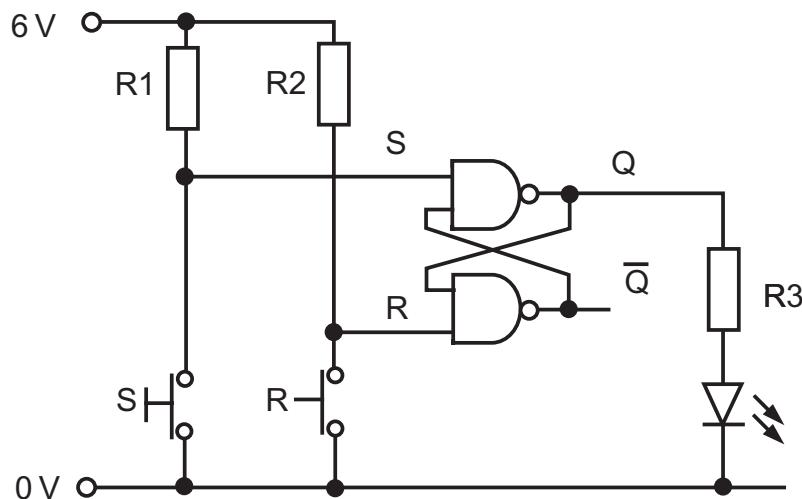

Fig. 9(a)
- 9** Fig. 9(a) shows a logic circuit which uses switches as inputs and has an LED output.
- (a) (i) Name the type of logic gate used in the circuit shown in Fig. 9(a). [1]
- (ii) Name the arrangement of gates shown in Fig. 9(a). [1]
- (iii) Briefly explain the function of the resistors R1 and R2 in the circuit shown in Fig. 9(a). [2]
- (iv) Draw a truth table for the circuit shown in Fig. 9(a) for the inputs S and R and the outputs Q and \bar{Q} . [5]
- (b) The LED in **Fig. 9(a)** is designed to work at a forward voltage of 1.8 volts and a current of 15 mA.
- (i) Calculate the value of resistor R3 in **Fig. 9(a)** required to allow the LED to function safely. Assume that the output voltage corresponding to a logic high is 6 volts. [2]
- (c) The circuit shown in **Fig. 9(a)** is to be modified to switch on a high voltage motor using a transistor and relay based circuit.